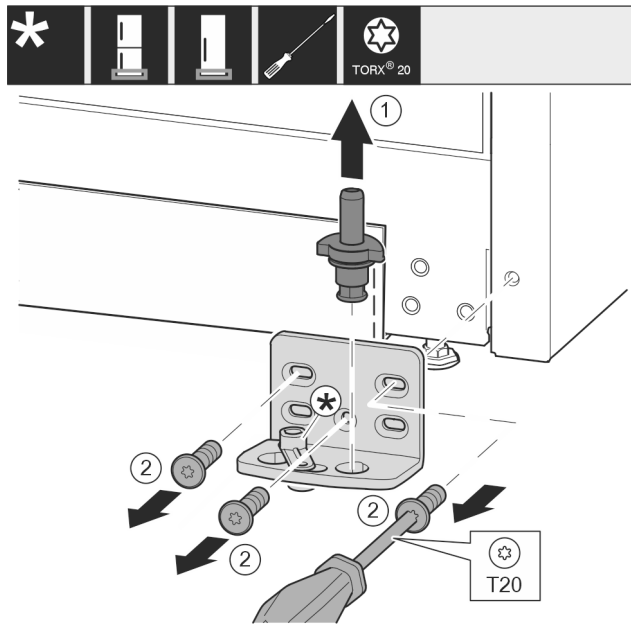

Fig. 13 *
- ▶ Lift the bearing pin completely upward and remove it. *Fig. 13 (1)**
- ▶ Remove the screws with the T20 screwdriver and take off the bearing bracket. *Fig. 13 (2)**